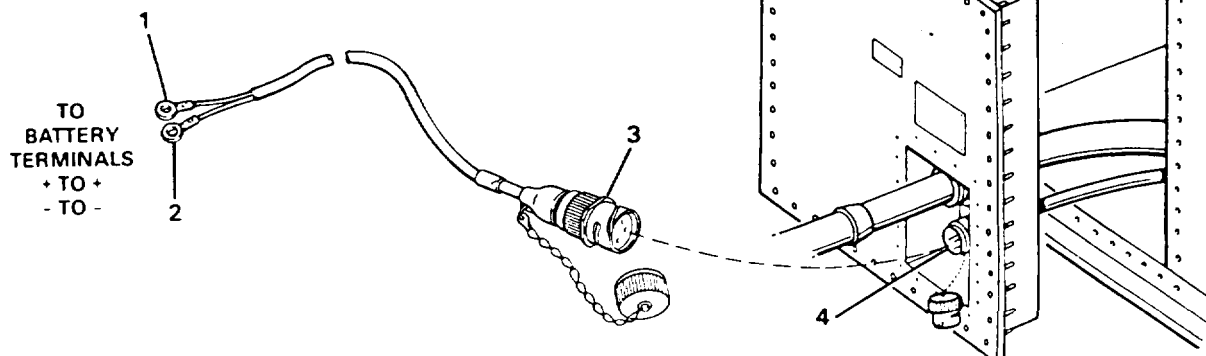

Figure 4-104. Generator Jumper Cable
- a. Disconnect leads (1 and 2, Figure 4-104) from generator battery.
- b. Disconnect cable connector (3) from 24 VDC connector (4) on van.
- a. Connect cable connector (3) to connector (4).